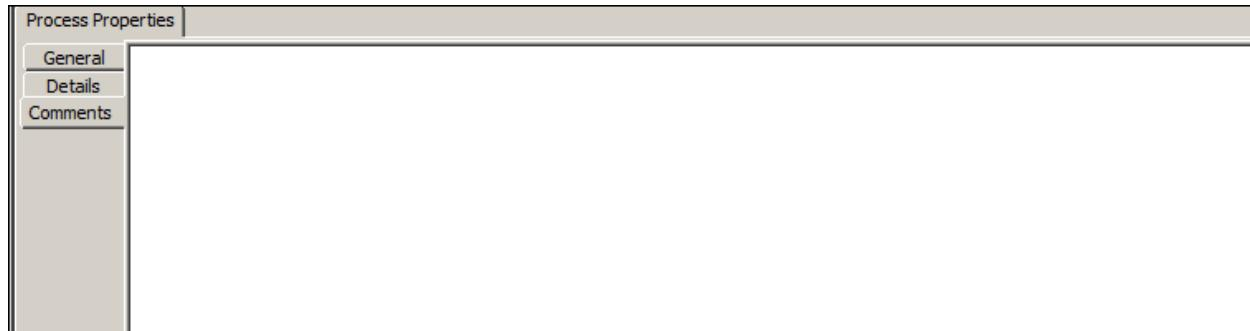

Figure 6: Comments Properties
- Click the **Comments** tab to display comments properties for the process model (see Figure 6).